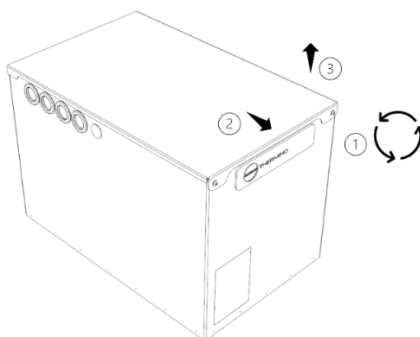

Figure 8: Access to the Heat Battery Connections - lid removal
- Remove the lid. The lid is secured by 2 x M5 button head cap screws at the front and two locating pins at the back (Figure 8):
Table 7: Reference Figure 8: Access to the Heat Battery Connections - lid removal
- The lid of the Heat Battery is fixed to the outer case using **2 x M5 Button Head cap screws**. These can be undone by using a **3mm hexagonal Allen key** (Figure 8).